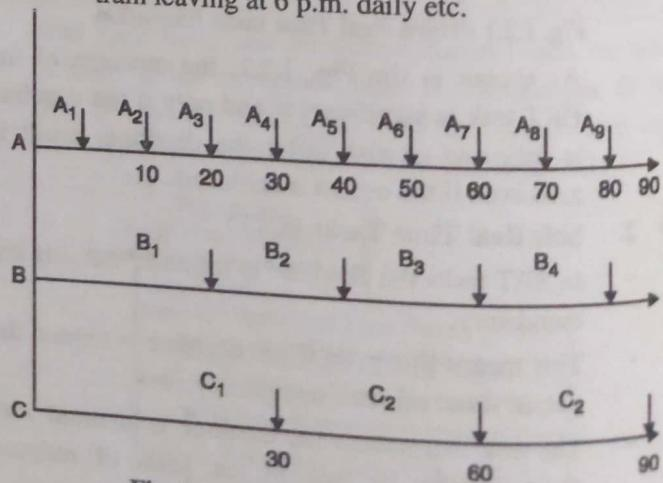

Fig. 1.2.4 : Periodic Tasks Execution
- As shown in Fig. 1.2.4 A, B and C are periodic tasks that occur after fixed interval of time,